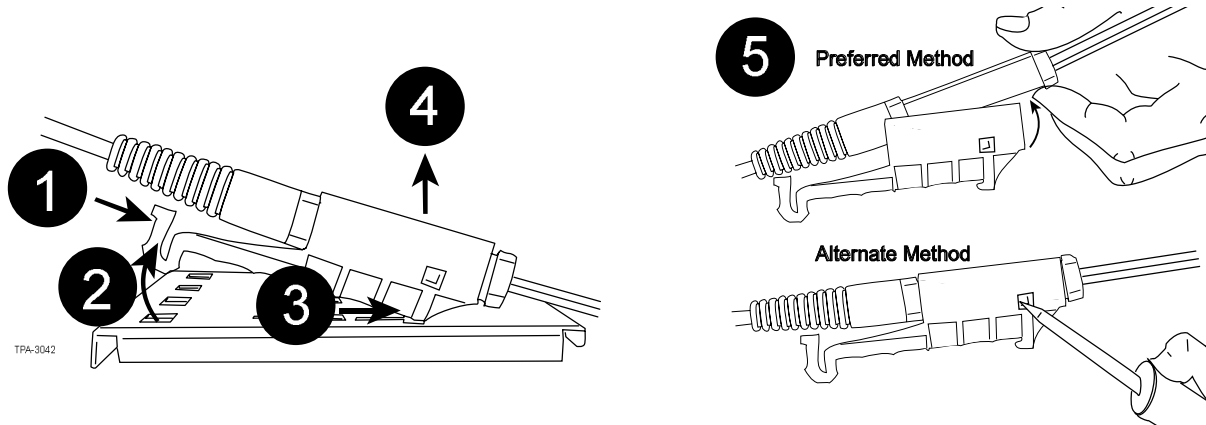

Figure 36 — Remove Trunk Cable from U-Clip Cradle
- Step 1: Push in on the latch as shown in Figure 36.